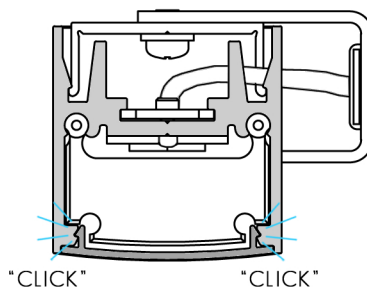

FIG. 2 - MAKE ELECTRICAL CONNECTION
1. MAKE ELECTRICAL CONNECTION: CONNECT LED STRIP TAILS TO LED DRIVER. (SEE FIG. 2 IF SUPPLIED WITH MALE/FEMALE CONNECTORS).